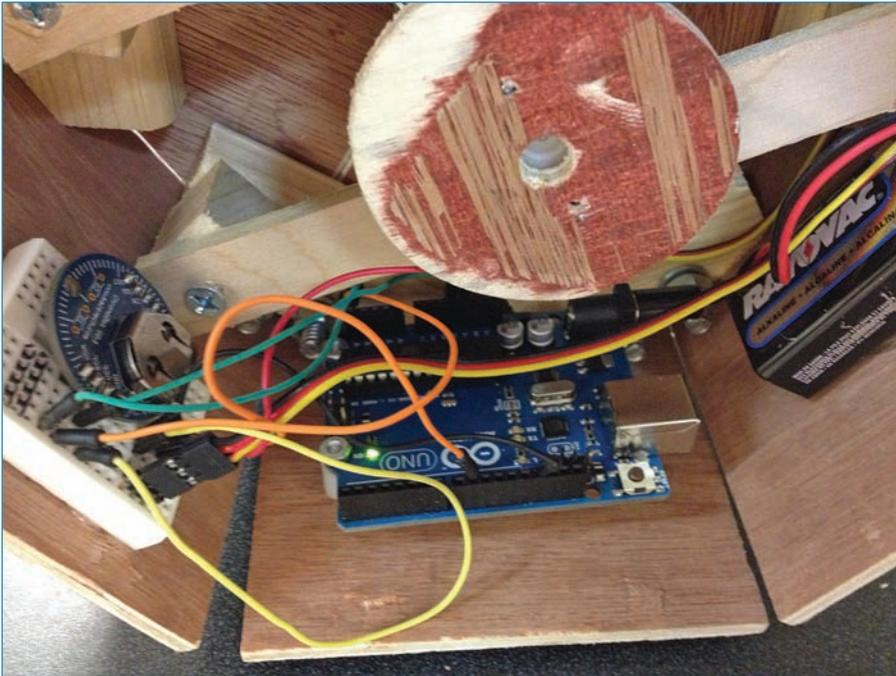

FIGURE 11.18 Attach the electronics to the inside of the enclosure.
11. Attach the Arduino, breadboard, and battery pack to the inside of the enclosure. I suggest bolting the Arduino to a side panel with #4 × 1" machine screws and hot gluing the breadboard and battery pack. It should look more or less like you see in Figure 11.18.